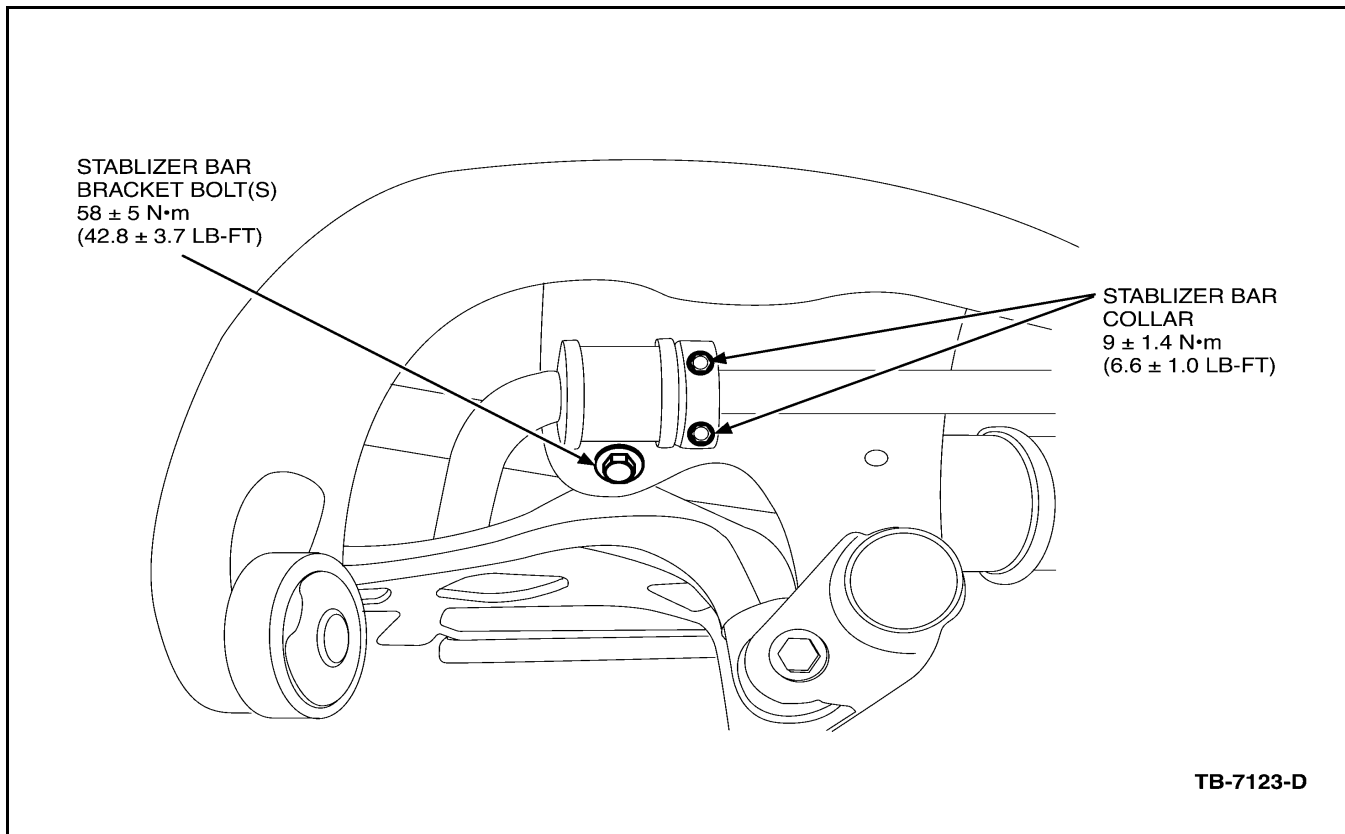

Figure 1 - Article 03-9-5
- Stabilizer bar bracket bolts (both sides) (Figure 1) - 42.8 ± 3.7 Lb-ft. (58 ± 5 N•m)
- Stabilizer bar collar bolts (both sides) (Figure 1) - 6.6 ± 1.0 Lb-ft. (9 ± 1.4 N•m)